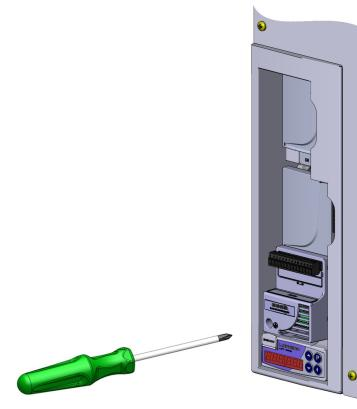

Figure 2: Fastening of the accessory grounding screw
- Connect the accessory to slot and fasten the grounding screw of the accessory to the frequency inverter, as shown in Figure 2.